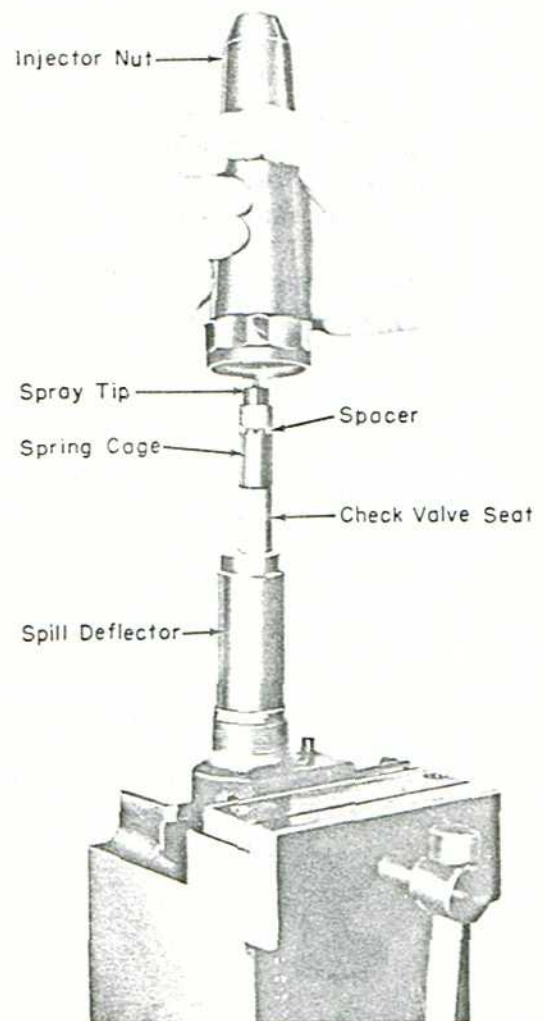

Fig. 22 - Removing Injector Nut
6. Place the injector nut carefully over the stacked parts, Fig. 22. Screw nut down by hand, then final tighten to 120 foot pounds using special injector nut socket #8201445 and torque wrench #8173332.